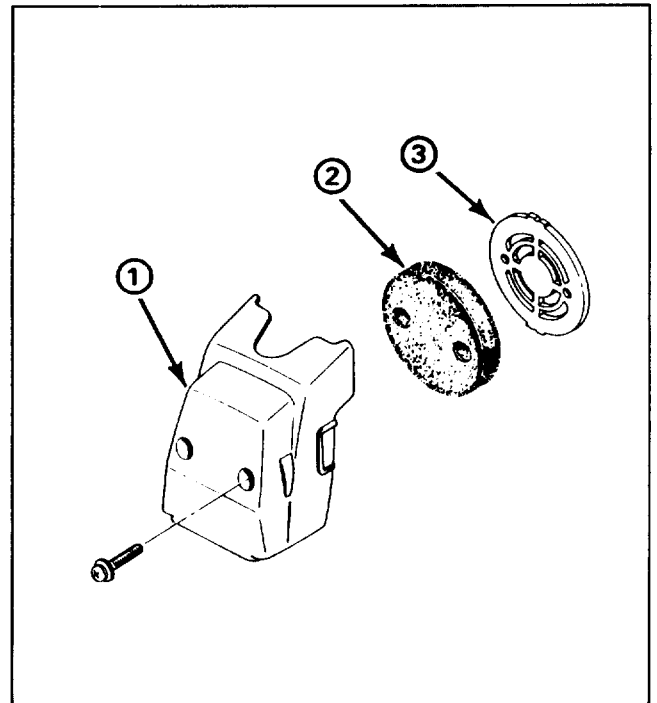

Figure 18
## SERVICING AIR CLEANER (Fig. 18)
6. Reinstall air cleaner components as shown in Figure 18.
1. Remove two (2) screws securing air cleaner cover to trimmer.
5. Reinstall air cleaner cover and air cleaner components to trimmer. See Servicing Air Cleaner, Figure 18 for component sequence.